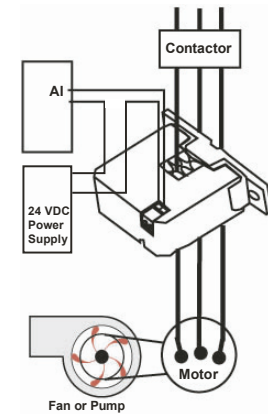

Figure 2: CTCG420NN
- Reconnect the power conductor cable (For wiring example, see Figure 2.)